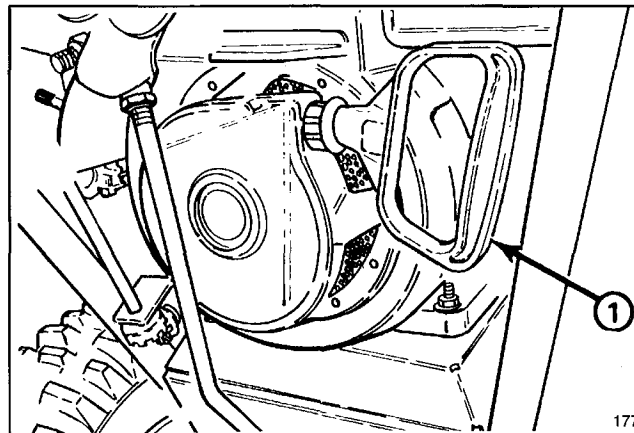

Figure 17
7. Grasp recoil starter handle (Fig. 17) and pull it out slowly until positive engagement results; then pull vigorously to start the engine. Keep firm grip on starter handle and return the rope slowly.